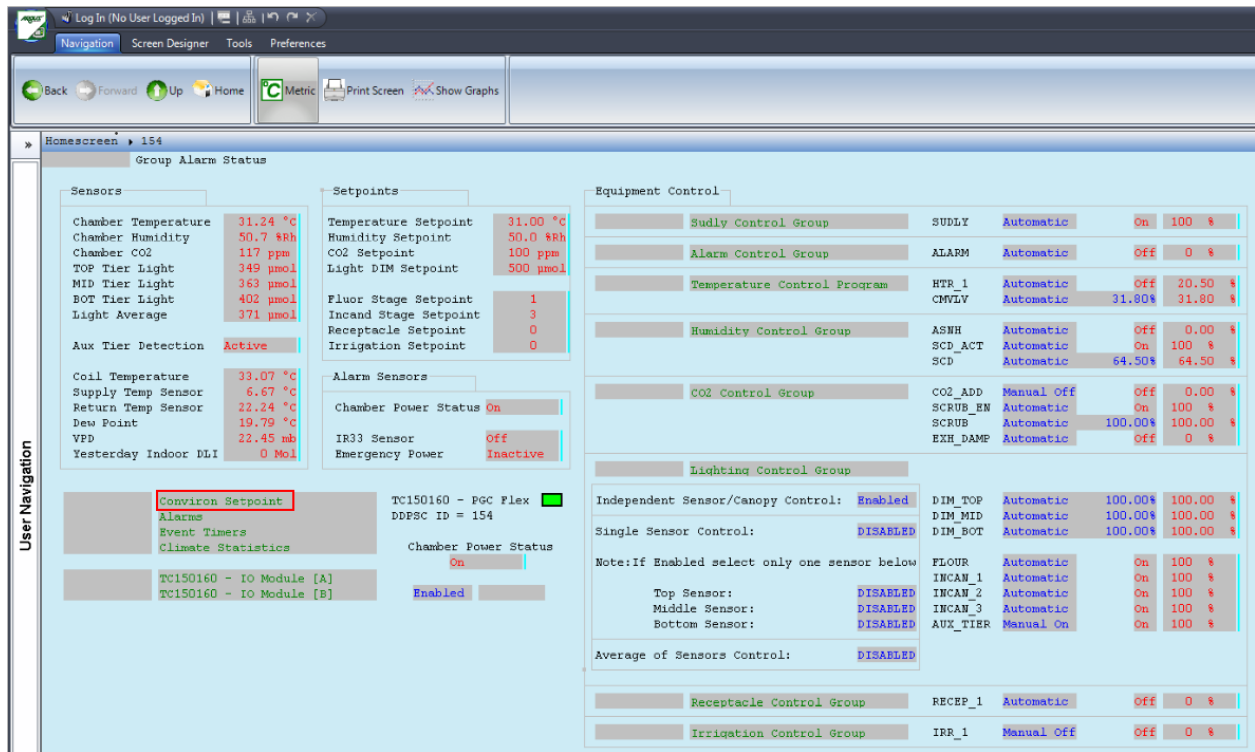

Figure 2-3 Convicon Setpoint
8. Select **Convicon Setpoint** (Figure 2-3).